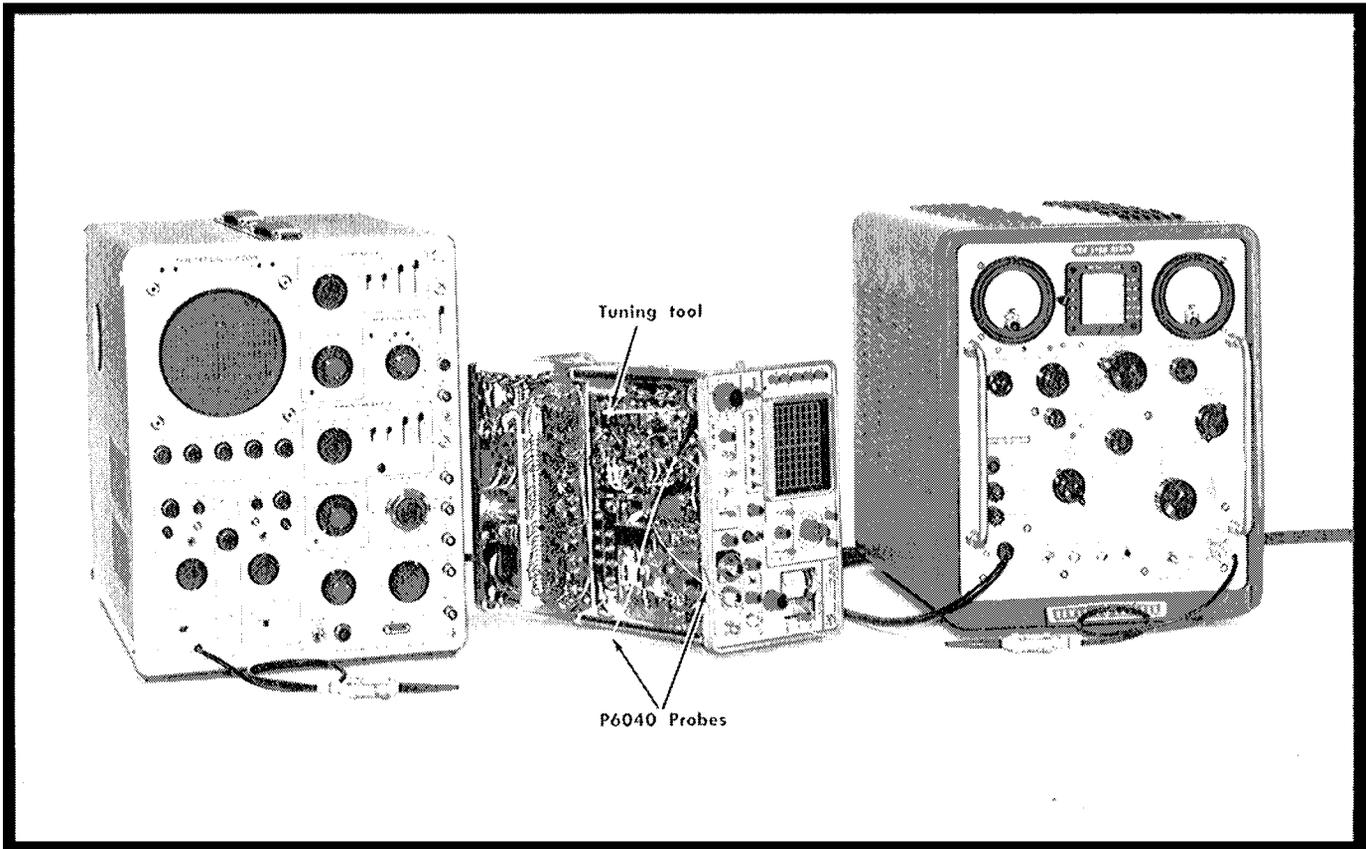

Fig. 6-38. Equipment setup to adjust wide band IF amplifier and check flatness.
- a. Equipment setup is given in Fig. 6-38.